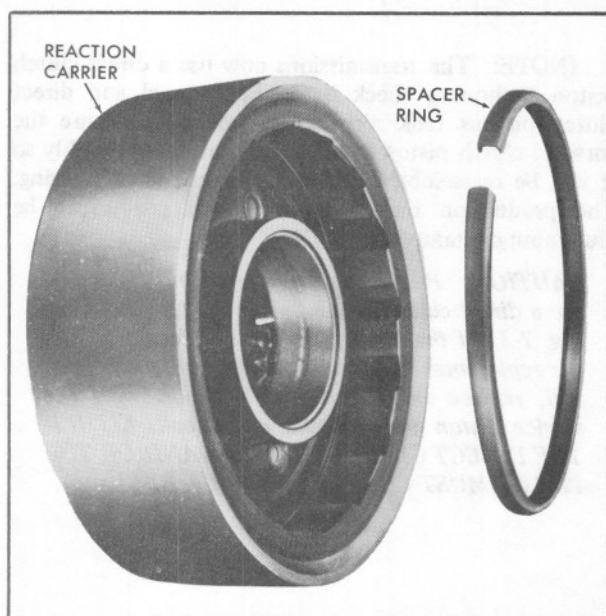

Fig. 7-5 Reaction Carrier with Spacer Ring (Eldorado)
1. If the reaction carrier has a spacer ring in an undercut at the bottom of the roller cam ramps, inspect it for damage (Fig. 7-5).